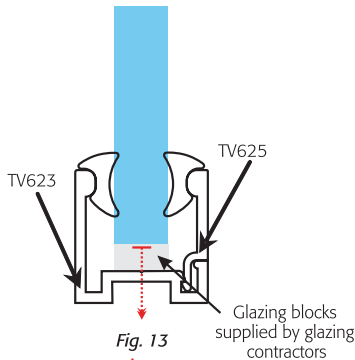

Fig. 13
- 8 When the door frame leg, corner post and single glazing sections are in position, base sections TV623 & TV625 can be butted up to the single glazing section TV620 to create the desired run length. See Fig. 13 for further information on base sections.
### Method of build fig.13
- 4 Insert TV625 base section trims and gaskets to hold glazing in place as shown in Fig. 13. When the base section is to be run up to a door frame, put the door frame in first and then butt up the base channel to the single glazing post TV620.
- 6 When TV612 is in position, base sections TV623 & TV625 can be butted up to the single glazing to solid conversion post TV612 to create the desired run length. See Fig. 13 for further information on base sections.